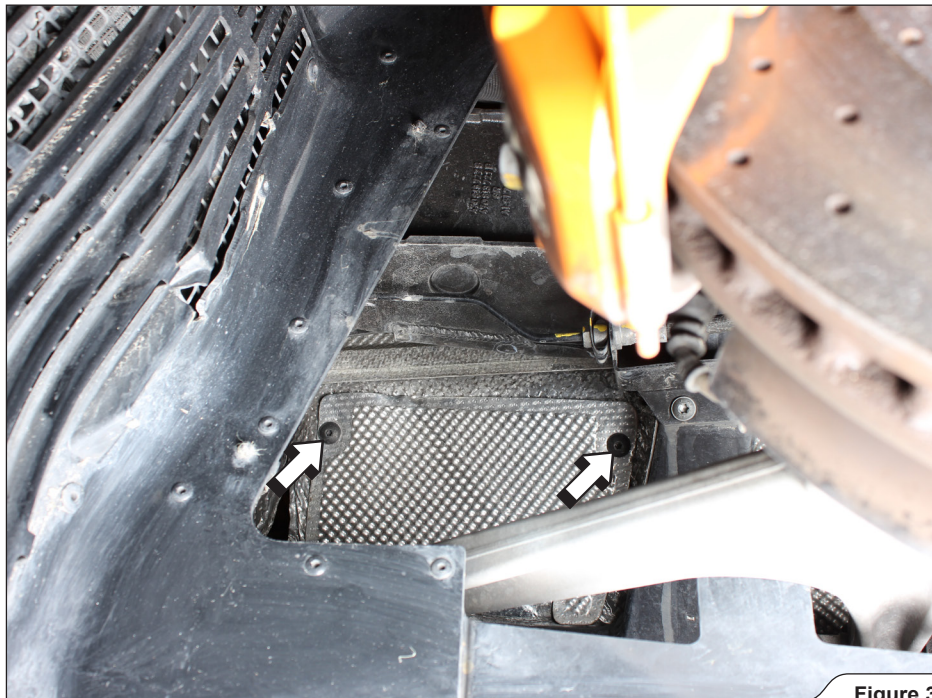

Figure 3
4. Unscrew and remove the heat shield panel on the left side of the engine compartment (**Figure 3**).